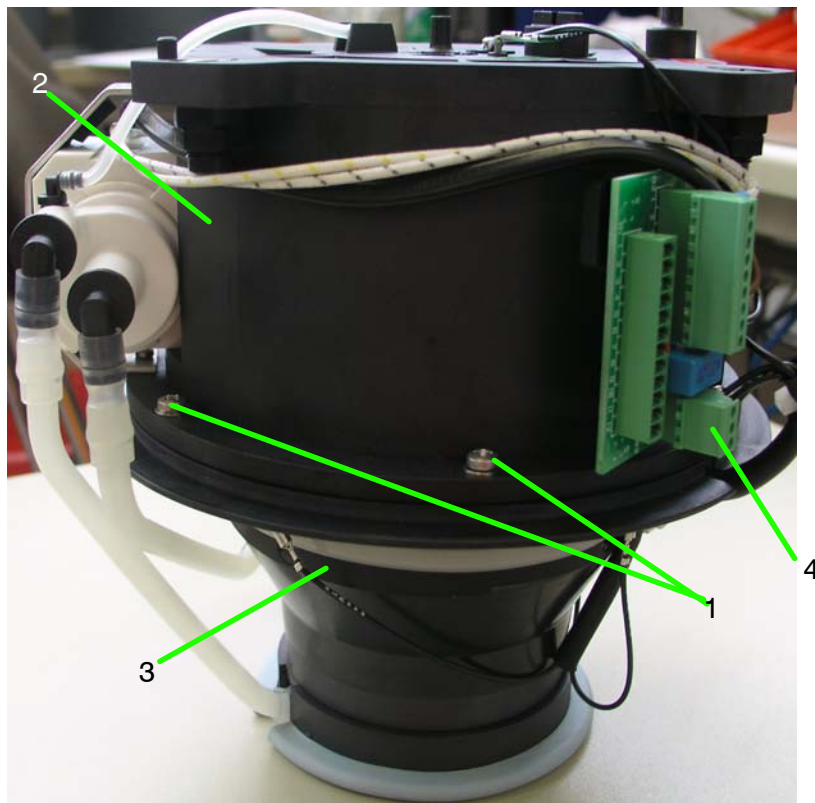

Figure 9: Outer sphere
- Undo the six screws (Figure 9/1) fastening the upper and lower halves of the outer sphere (Figure 9/2 and 3).
- Remove plug B3 (Figure 9/4) from the plug plate.
- Remove the upper half of the outer sphere (Figure 9/2).
- Retighten the six screws (see Figure 9/1).
- Insert plug B3 (Figure 9/4) again.